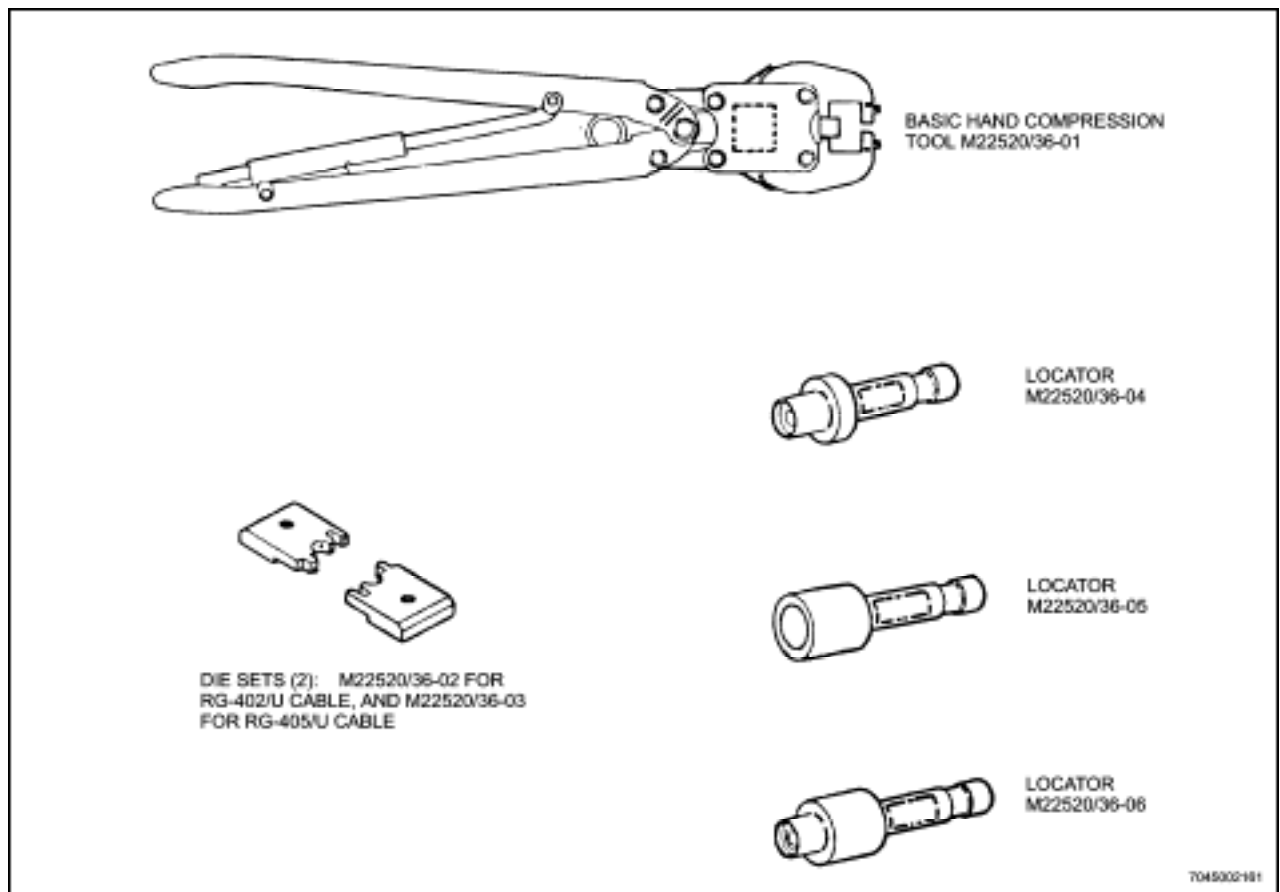

Figure 12-55 Termination Tooling
44. Refer to Figure 12-55, and select the correct combination of cable, connector, hand tool locator, and die set from Table 12-12.